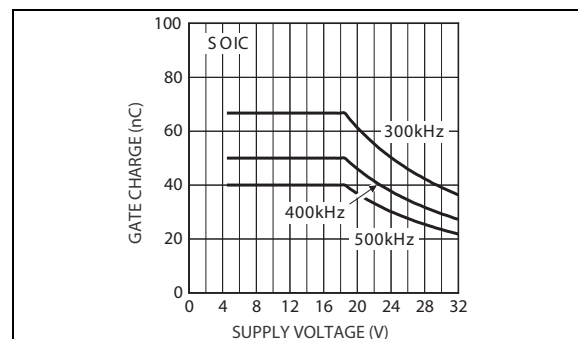
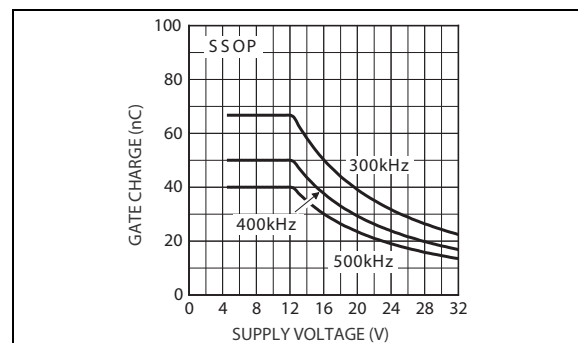

FIGURE 4-9: SOIC Package Device MOSFET Gate Charge Driving Ability vs. Input Voltage.
FIGURE 4-10: SSOP Package Device MOSFET Gate Charge Driving Ability vs. Input Voltage.
- Higher power dissipation in the internal V_{DD} regulator. This occurs because the MOSFET gates require charge to turn on the device. The average current required by the MOSFET gate increases with switching frequency. This increases the power dissipated by the internal V_{DD} regulator. Figure 4-9 and Figure 4-10 shows the total gate charge which can be driven by the MIC2182 over the input voltage range, for different values of switching frequency. The total gate charge includes both the high-side and low-side MOSFETs. The larger SOIC package is capable of dissipating more power than the SSOP package and can drive larger MOSFETs with higher gate drive requirements.
A convenient figure of merit for switching MOSFETs is the on-resistance times the total gate charge ($R_{DS(ON)} \times Q_G$). Lower numbers translate into higher efficiency. Low gate-charge logic-level MOSFETs are a good choice for use with the MIC2182. Power dissipation in the MIC2182 package limits the maximum gate drive current. Refer to Figure 4-9 and Figure 4-10 for the MIC2182 gate drive limits.